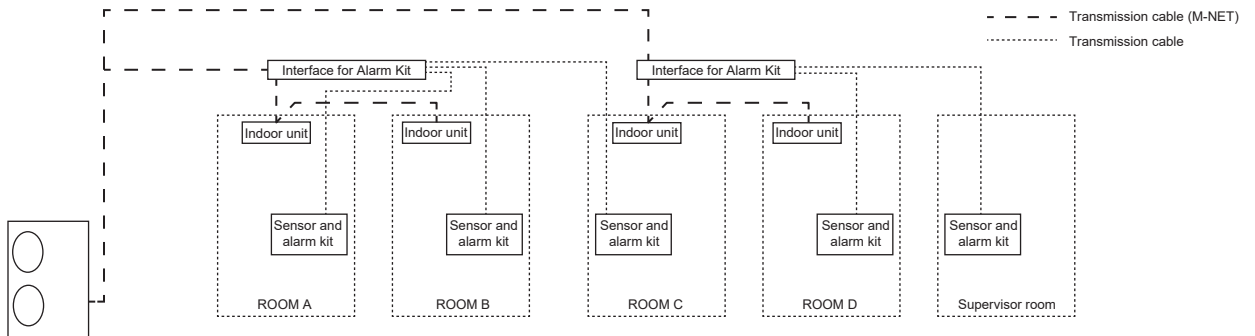

Fig. 5-5
- Never connect the indoor unit and the Sensor and alarm kit that are installed in the same room to different Power Supply Interfaces for Alarm Kit. (See Fig. 5-5.)